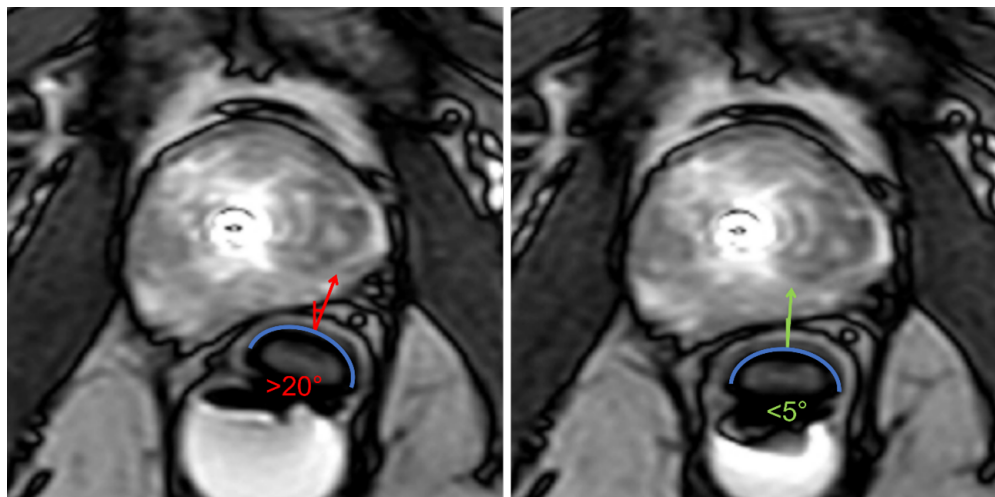

Figure 34: Axial images depicting ECD oriented incorrectly (left, rotated more than 20 degrees) and correctly (right, facing up towards the prostate)
- b. The orientation of the cooling window should face the prostate (anterior), as confirmed on the axial MRI (*Figure 34*). Check that the ECD cooling window is adjacent to and facing the prostate, with the handle-neck joint of the ECD at the anal verge and the raised, tactile ridge on the ECD handle facing anteriorly.